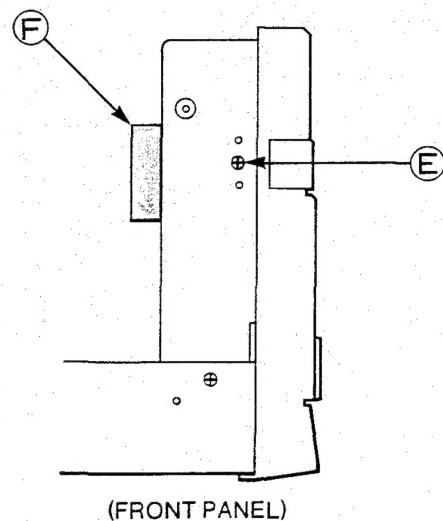

Fig. 3
2. Remove the screw (E) on the left side of the Front Panel. Then, remove AC Switch P.C.Board (F). (Fig. 3)